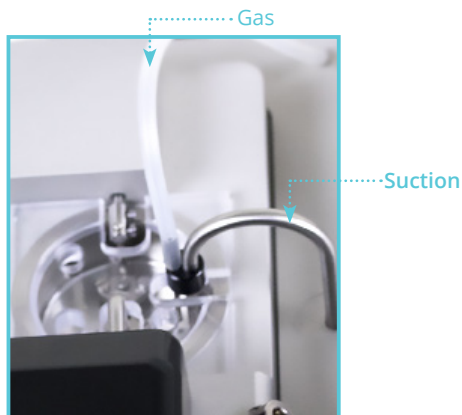

Figure 2.2 Suction connection
2. **Oxygen Supply:** Connect the gas supply (95% O₂, 5% CO₂ or 21% O₂, 5% CO₂, balance N₂) with tubing running from the gas supply to the gas inlet on the back of the Interface. Oxygen is supplied to the chambers by tubing attached to the stainless steel vacuum pipe. The oxygen and vacuum tubing need to be inserted into the chamber in order to aerate the heated buffer. Needle valves on the back of the interface can be adjusted to regulate the amount of bubbling that occurs. Turning the regulator clockwise increases the bubbling while turning it counter-clockwise decreases the bubbling. Each regulator has a lock device attached that can be used when the desired bubbling is achieved. See Figure 2.2 on next page.
3. **Vacuum Connection:** The system has a built-in manifold with separate valves that allows each chamber to be drained individually. After connecting the vacuum source at the back of the Interface, the vacuum pipes need to be inserted into the chambers in order for this feature to work properly. The pipes are inserted into the chamber by gently pulling up on the curved part of the pipe, turning it 90° counter-clockwise and gently lowering it into the chamber. A chamber can then be emptied by pressing the corresponding numbered button. Pressing the “all” button will empty all the chambers at the same time, see Figure 2.2.